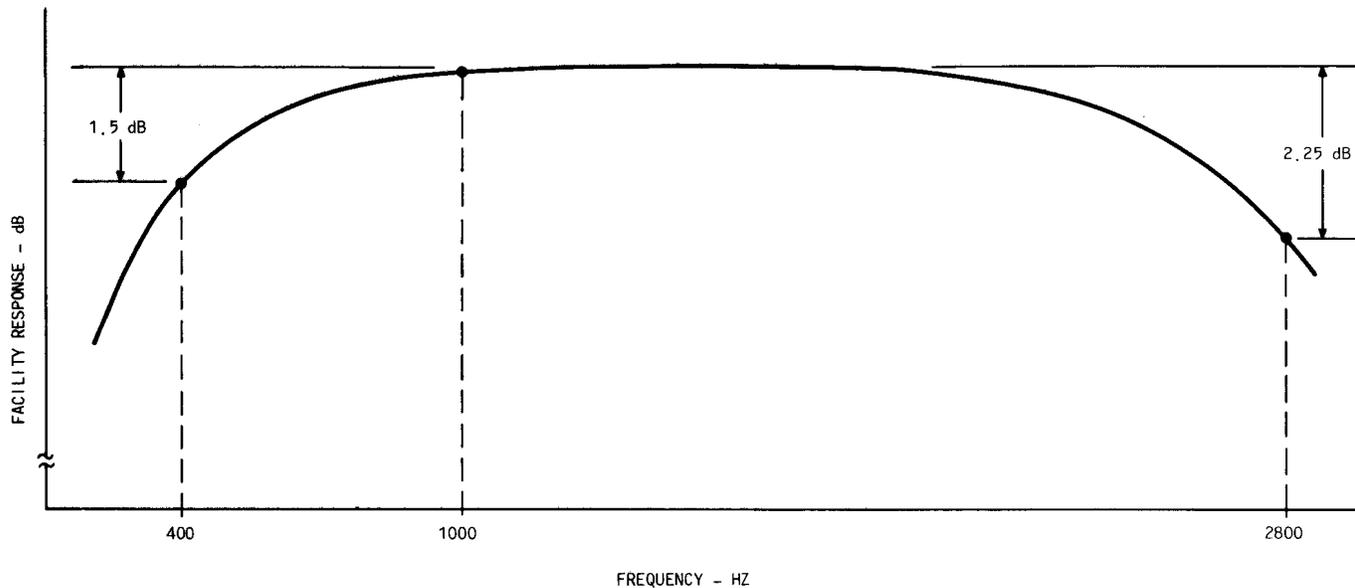

Fig. 23—Objective For Equalized Response on a 4-Wire Circuit With 2-Wire Extension
10.02 Figure 23 shows the desired equalized facility frequency response. Unlike an all 4-wire facility (no 2-wire extension) which strives for a flat response across the band, the response objective here has 1.5 dB roll-off at 400 Hz and 2.25 dB roll-off at 2800 Hz. Of the two objectives, the 400 Hz one is the more critical because, in many cases, the stability of the circuit is directly related to the loss at 400 Hz.
Note: This is an *objective*—not a requirement. Actual response limits are determined by the requirements of the overall circuit. By adjusting each facility of a circuit to the loss shape of Fig. 23, the overall circuit will be set for optimum stability while still meeting its end-to-end loss objectives.